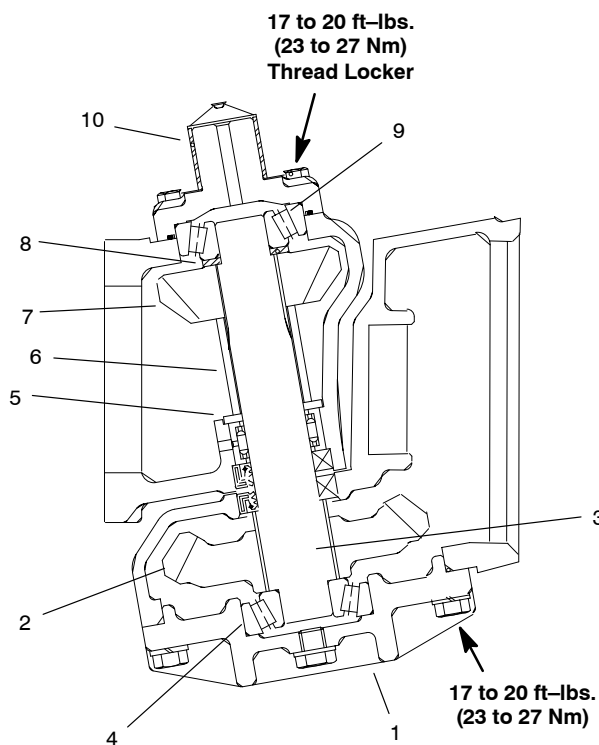

Figure 9
2. Install the lower bevel gear, and bevel gear shaft in the axle case cover. Coat a new O-ring with grease and install the axle case cover (Fig. 9). Tighten cover screws to 17 to 20 ft-lbs. (23 to 27 Nm).
3. Slide the bevel gear case over the bevel gear shaft and install the thrust washer, spacer, bevel gear, and collar. Make sure the bevel gear shaft is completely seated in the upper and lower bearings (Fig. 9).